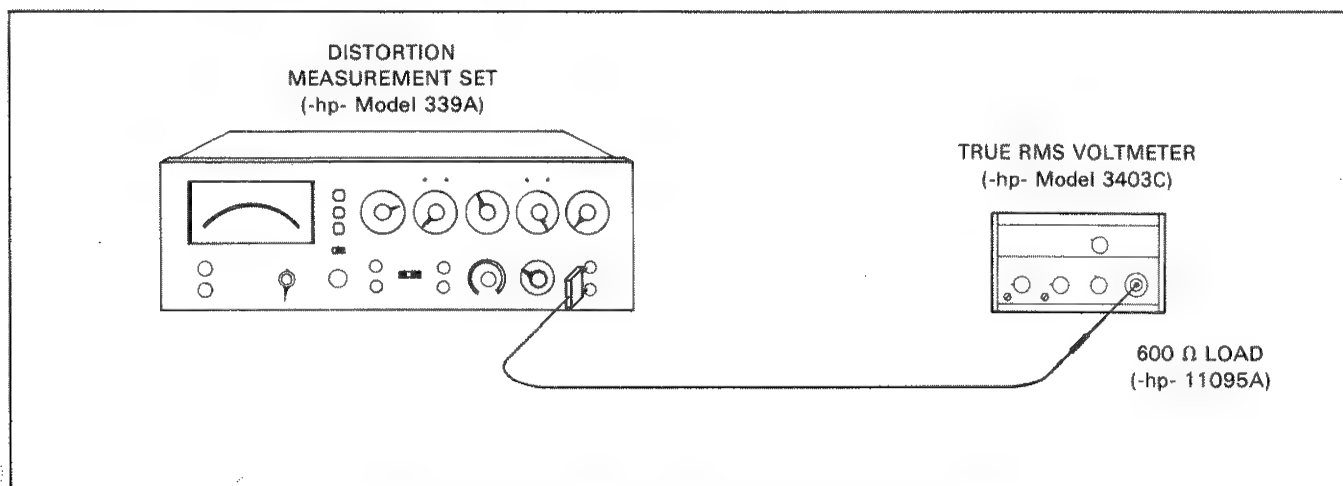

Figure 4-5. Oscillator Output Level and Flatness Test.
c. Connect the equipment as shown in Figure 4-5.